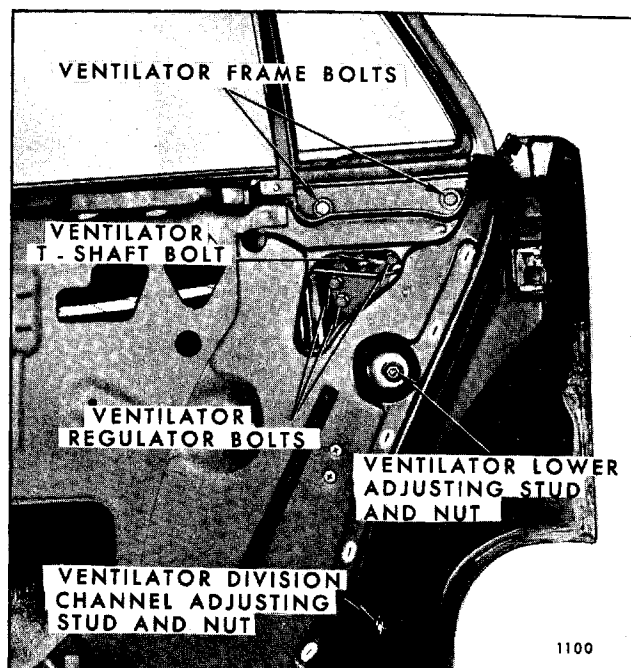

Fig. 7-142—Rear Door Ventilator Attachments - 68069-68169 Styles
3. Remove ventilator "T-shaft" to regulator attaching bolt (Fig. 7-142).
4. Remove ventilator regulator to ventilator frame attaching bolts (Fig. 7-142).
2. Remove ventilator lower frame and ventilator division channel lower adjusting stud nuts (Fig. 7-142).
3. Remove ventilator lower frame attaching bolts (Fig. 7-142).
- c. Ventilator division channel and ventilator frame lower adjusting studs (Fig. 7-142).
3. To adjust ventilator fore-or-aft, or to rotate it in opening, loosen ventilator attaching bolts, adjusting stud nuts, and "T-shaft" attaching bolt (Fig. 7-142). Position ventilator as required and tighten loosened attachments.